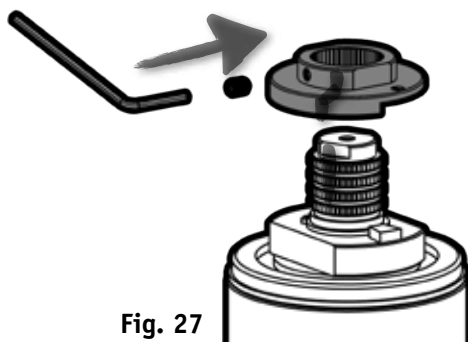

Fig. 27
12) Refit the HANDLE STOPPER 12 using the alignment marks and tighten the HANDLE STOPPER SCREW 10 using 1.5mm ALLEN KEY (Fig. 27)